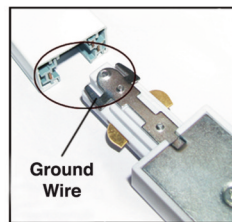

Fig. 1
1. Press the top of the adaptor (TA-ADPT). (**Fig. 1**)
1. The connector has 2 ground wires on each side, while there is only 1 slot on the left side of the 3-wire track (**Figure 1**).